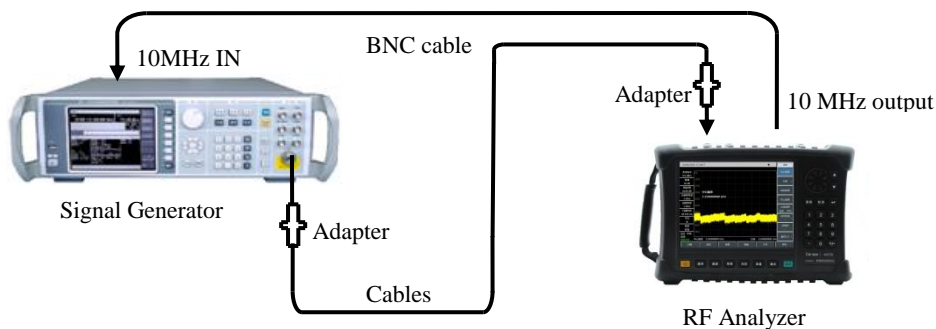

Figure 16-9 Block Diagram of Sweep Width Accuracy and Sweep Time Test
- a) Connect the test equipment as shown in Figure 16-9, and the instrument is used to provide reference frequencies for the composite signal generator.
- a) Connect the test equipment as shown in Figure 16-9, connect the radio frequency output of the signal generator to the radio frequency input of the instrument, which is used to provide reference frequencies for the composite signal generator.